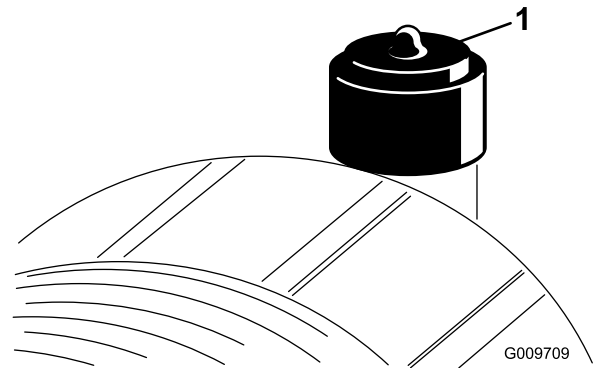

Figure 38
Service the air-cleaner filter only when the service indicator (Figure 38) requires it. Changing the air filter before it is necessary only increases the chance of dirt entering the engine when you remove the filter.
2. Reset the indicator (Figure 38) if it shows red.